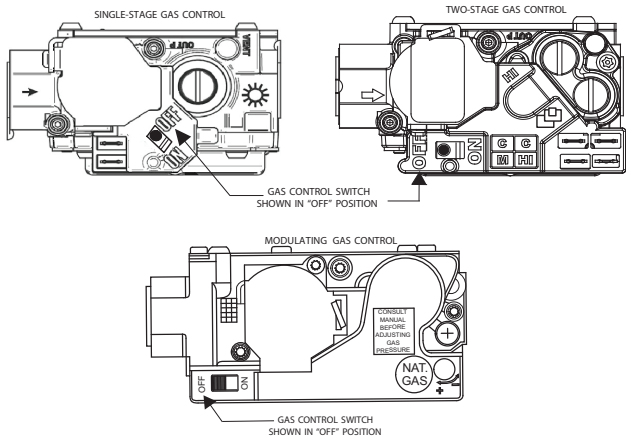

Fig. 11 - Control Switch to OFF
5. Turn the control switch on the gas control to the OFF position and wait five minutes. See Fig. 11. Then smell for gas, including near the floor. If you smell gas, **STOP!** Follow “B” on furnace label. If you don’t smell gas, go to next step.